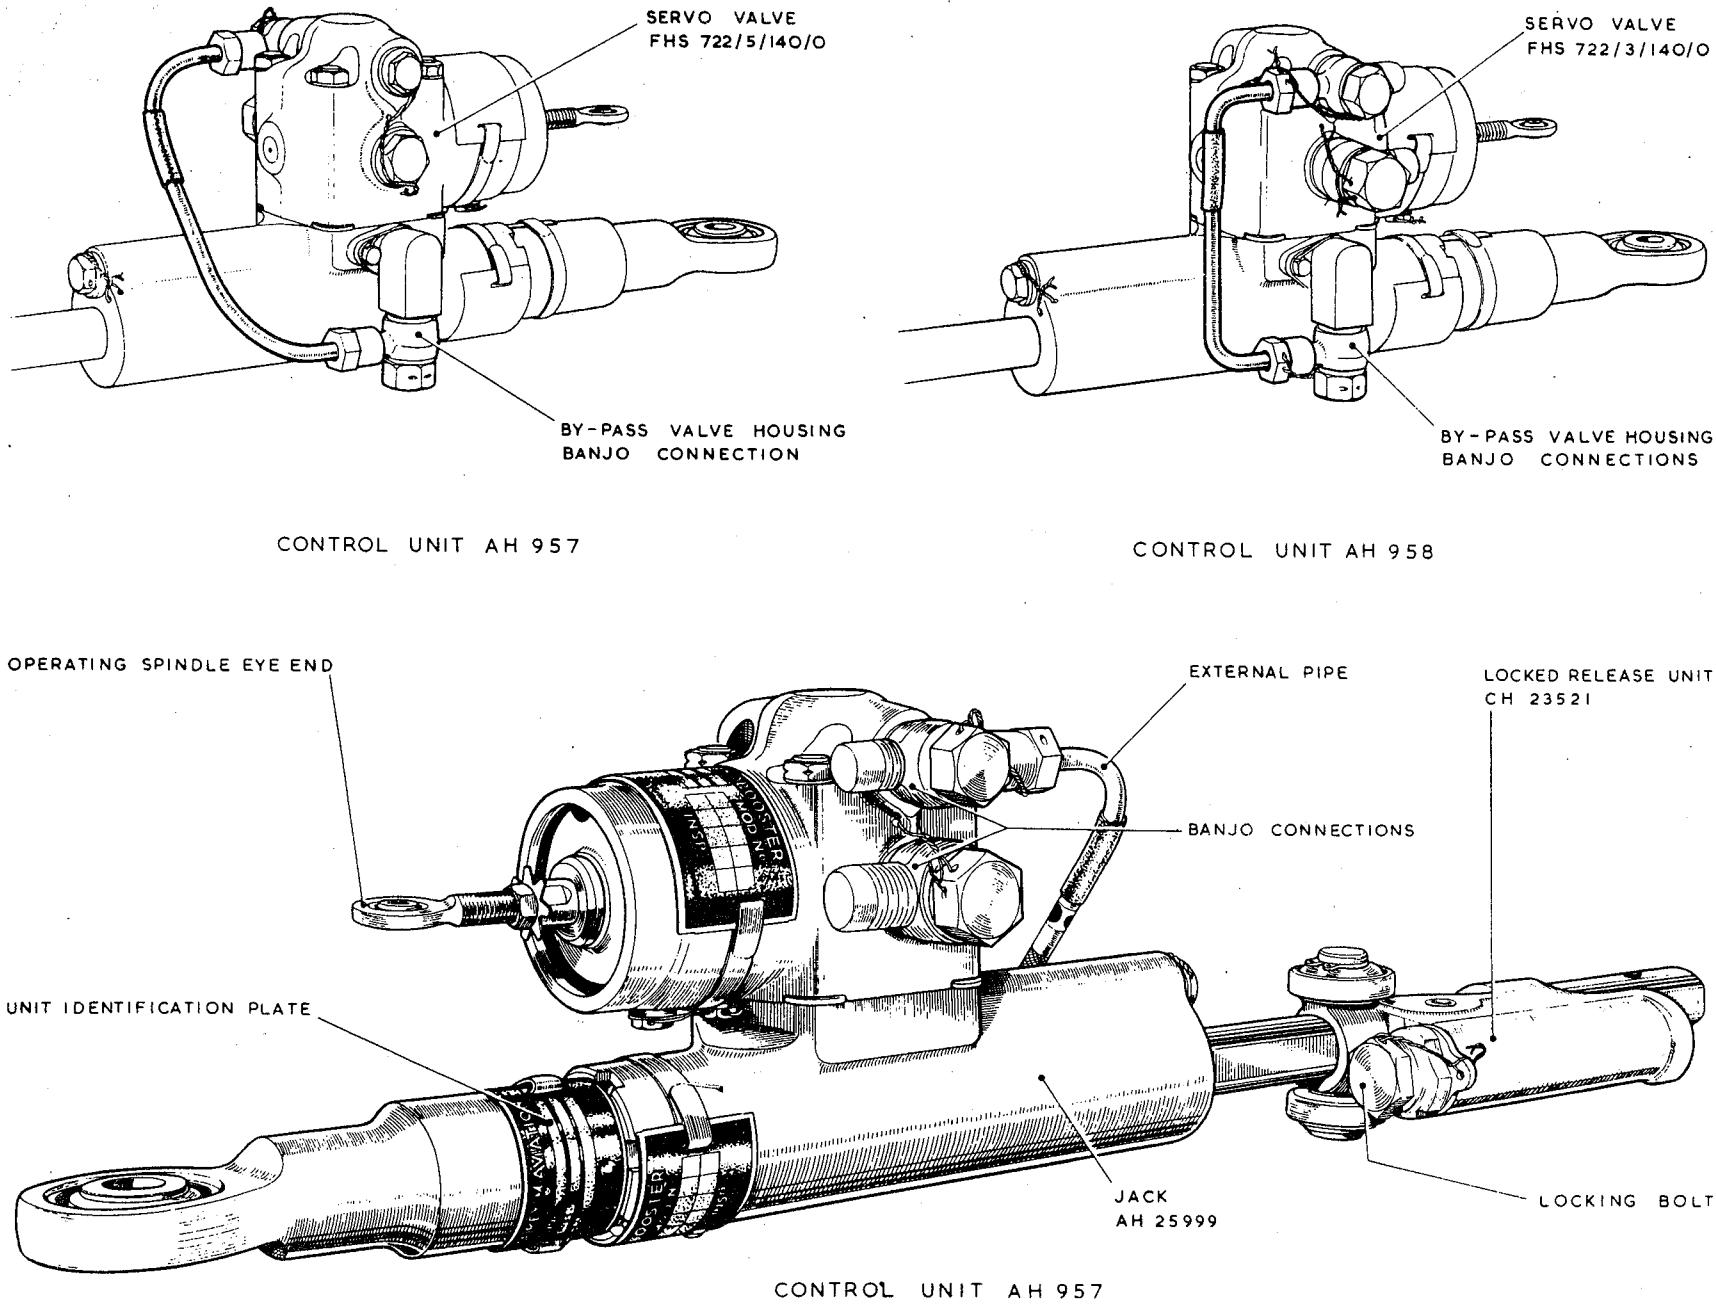

Fig. 1 Control units AH 957 and AH 958
(5) Remove the two banjo bolts and unions from the valve and fit protection plugs to the body orifices.
(6) Evenly slacken the four valve attachment bolts; the bolts are each held captive by a platen retaining washer located between valve and jack, for this reason even and progressive slackening of the bolts is to be continued until the valve can be lifted from the jack.
(7) Remove the connecting pieces, using tool FHQ 164, place them in a protective bag and attach the bag to the jack.
(8) Fit protection plugs to the fluid orifices in the valve bottom platen; position the valve base cover plate and secure it, using the four valve attachment bolts and  $\frac{1}{4}$  in B.S.F. nuts.
(9) Fit protection plugs to the jack platform fluid orifices; position the cover plate and secure it with  $\frac{1}{4}$  in dia B.S.F. screws and washers.
(10) Remove the unit identification plate (fig. 1).